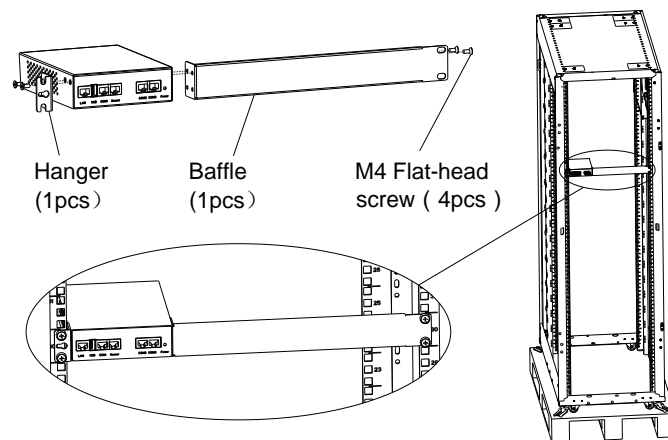

Figure 2-3 Illustrations for installation bracket and baffle plate and installation effect
2. Connect the baffle panel and RDU-EX according to Figure 2-3, and then install the unit in a rack.